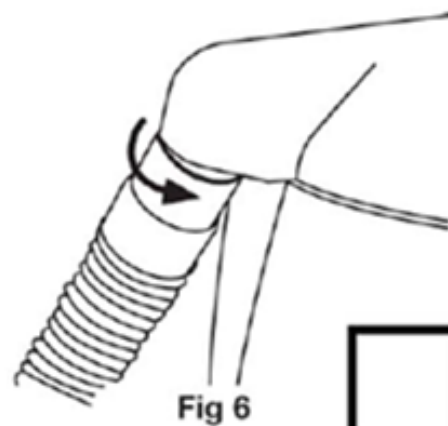

Fig 6
1. To connect the flexible hose into the hose inlet, insert the threaded end of the flexible hose into the hose inlet and turn counter-clockwise until it locks into place. (Fig 6)